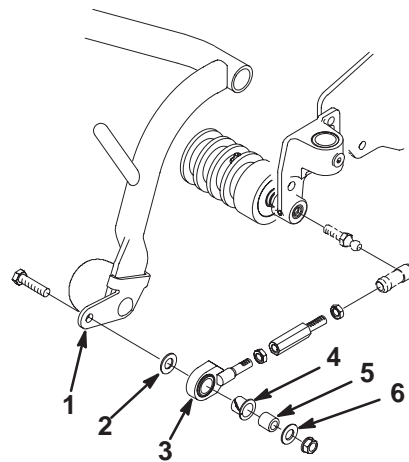

Figure 14
39. Mount a pull link assembly to the outside of each link bracket with a capscrew, flat washer, nylon bushing, spacer, washer, and locknut. Position the components as shown in Figure 14. Make sure that the nylon bushing is in the pull link.